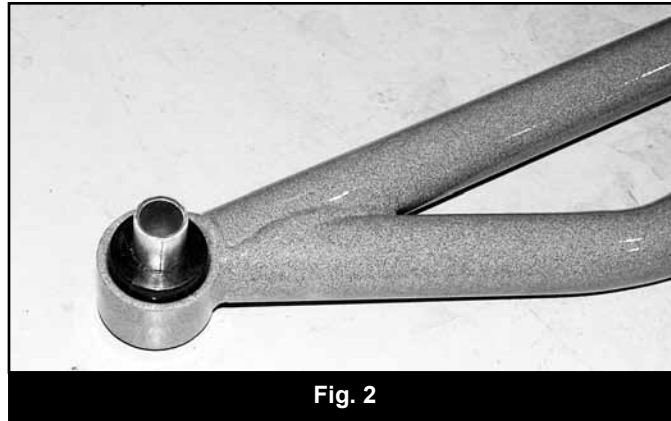

Fig. 2
5. Lightly grease and install the provided hourglass bushings (M02016BK) and sleeves (54587) in the ends of the new traction bars (01805). (Fig 2)
6. For a 3/8" rivet nut, hold the nut closest to the rivet nut still with an 5/8" wrench and tighten the 3/8" bolt with a 9/16" wrench to set the rivet nut. Be sure to hold the rivet nut flush to the surface and square to the hole as it is tightened. Figure 2
7. For a 1/2" rivet nut, hold the nut closest to the rivet nut still with an 7/8" wrench and tighten the 1/2" bolt with a 3/4" wrench to set the rivet nut. Be sure to hold the rivet nut flush to the surface and square to the hole as it is tightened. Figure 2